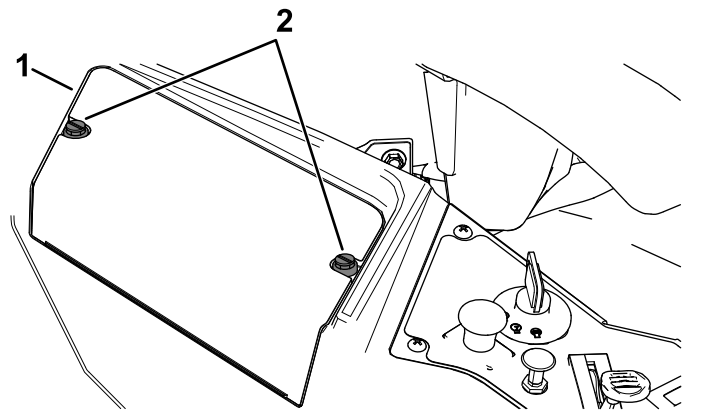

Figure 55
3. Loosen the 2 fasteners on the battery cover counterclockwise 1/4 turn, and remove the battery cover (Figure 55).
6. Install the battery cover by pushing down and tightening the 2 fasteners clockwise (Figure 55).